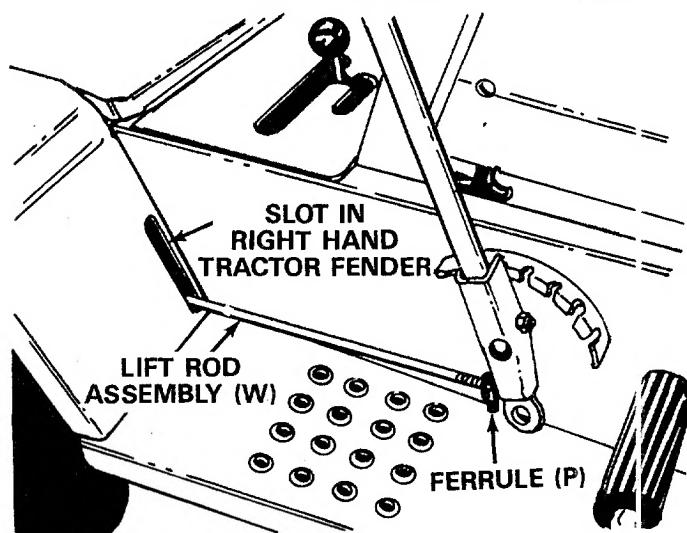

FIGURE 9
19. Thread adjustment ferrule (P) on other end of lift rod assembly a few turns. See figure 9, inset.
20. Place the tiller in position behind the tractor. Slide the tiller forward so the lift rod assembly and ferrule go through the slot in the right hand fender on the tractor. See figure 9.